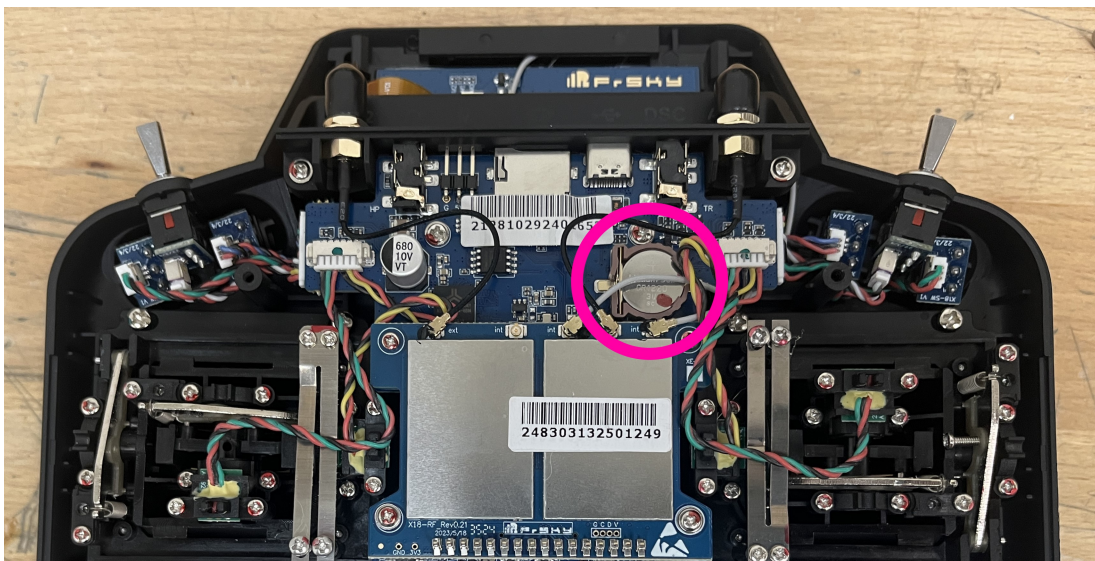

Figure 82: RCU RTC Location
6. Locate the RTC battery(circled in Figure 82) and remove it.